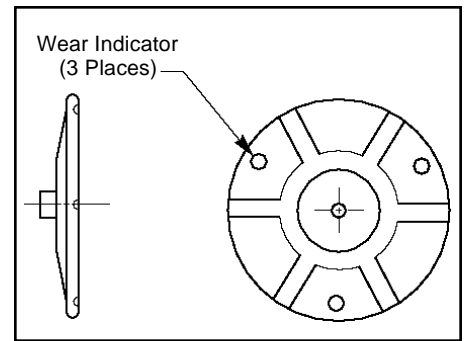

Fig. E1
**Note:** The polishing jig used in these procedures is designed with three "wear indicators" on its polishing surface (Fig. E1). Each indicator is 0.002" deep. As polishing is done, the surface of the jig will be worn away. Uniform pressure across the jig's surface during polishing will result in the areas surrounding the "indicators" to wear evenly. Non-uniform pressure will result in one or two indicators disappearing, thereby requiring the jig to be replaced.